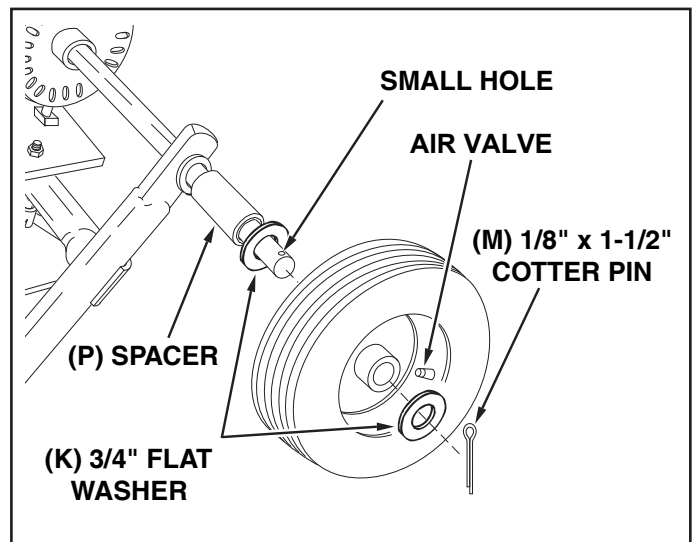

FIGURE 3
6. Assemble a spacer (P), a 3/4" flat washer (K), a wheel (air valve facing out) and another 3/4" flat washer (K) onto the end of the axle that has only the **small hole**. See figure 3.
7. Install a 1/8" x 1-1/2" cotter pin (M) into the hole in the axle. See figure 3.